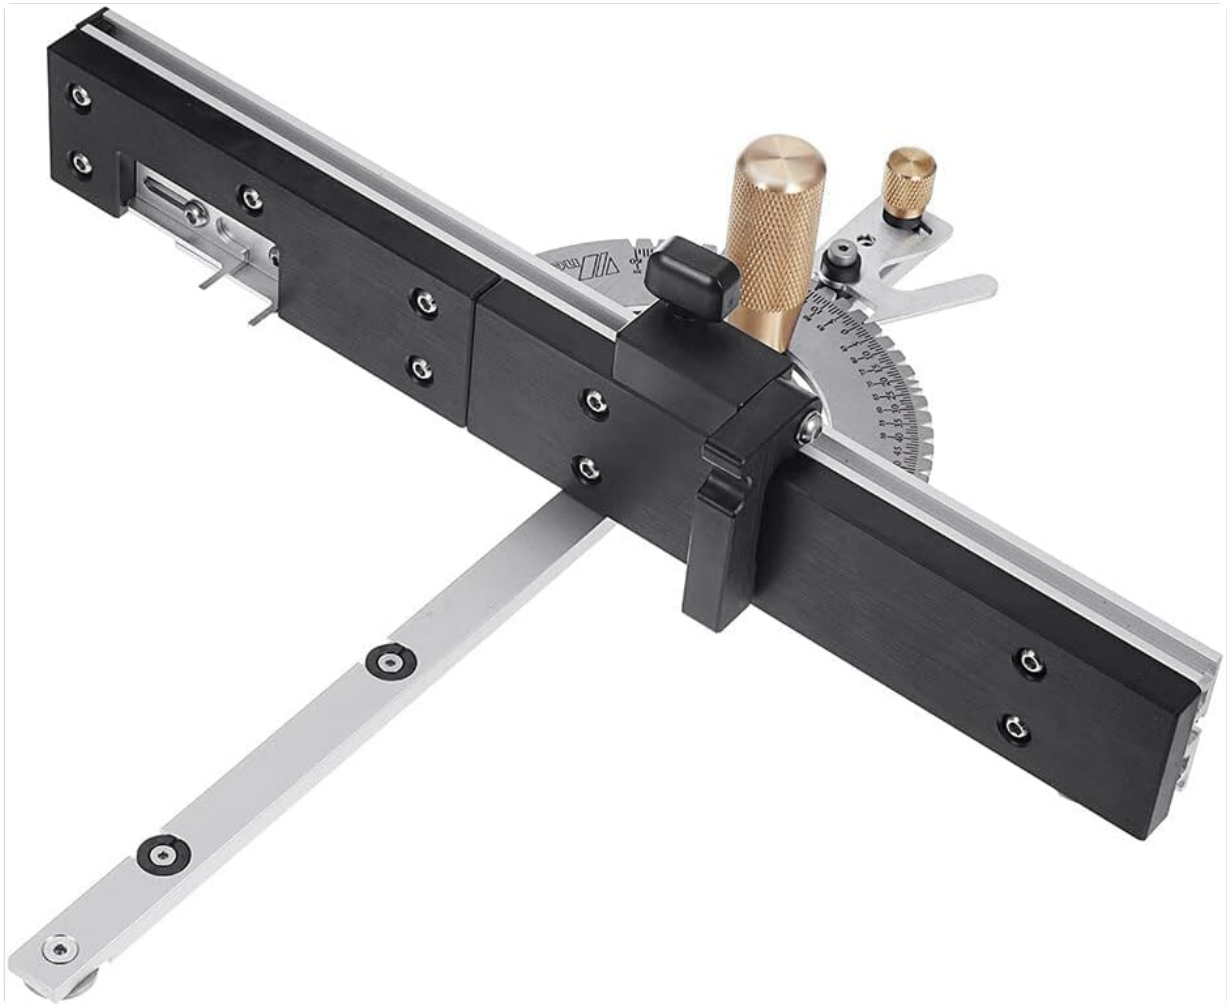

Figure 3: Underside view of the miter gauge bar. Note the four sprung-loaded ball bearings designed to keep the bar snug in the track and prevent side play.
3. **Insert into Miter Slot:** Slide the miter gauge bar into the standard 3/4" (19mm) miter slot of your table saw, router table, or band saw. The sprung-loaded ball bearings (Figure 3) will ensure a snug fit.
| Excessive play in miter slot | Ball bearings not properly seated or worn                            | Inspect ball bearings (Figure 3) for proper function; ensure they are clean and free of obstruction.          |